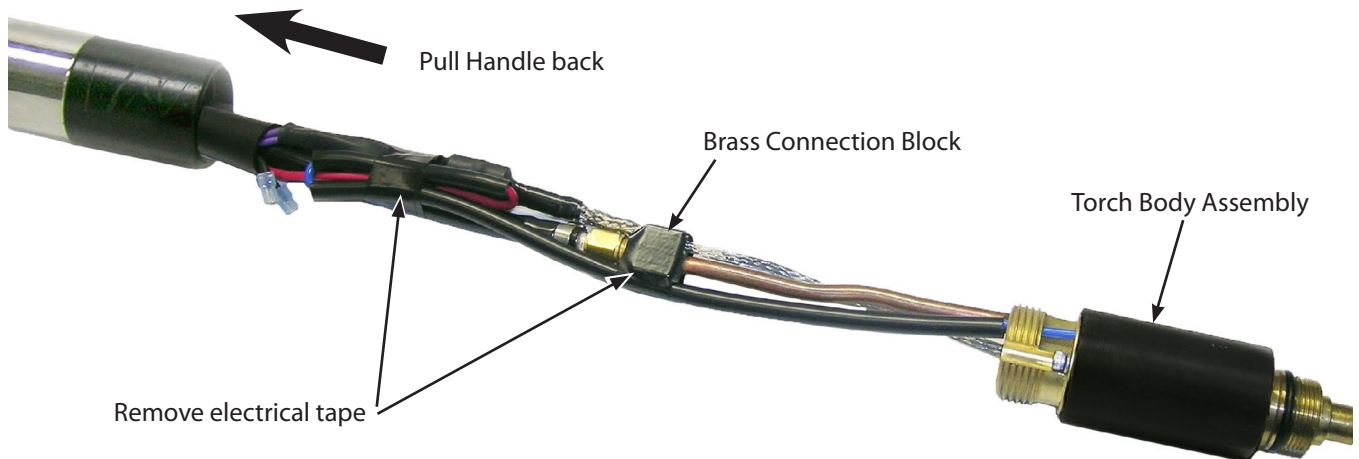

Figure 5-2.
2. Remove the electrical tape wrapped around the torch sleeving to access the tubing on the pilot arc (blue) cable (See figure 5-2). Move the tubing to expose the pilot arc knife connection.